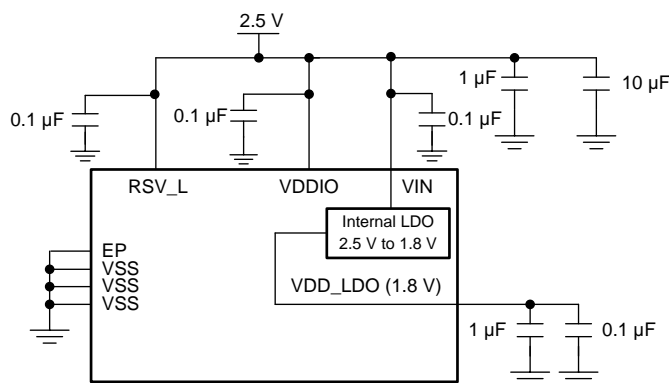

图 24. Single 2.5 V Supply Mode - Compatible with LMH1219
- **Single 2.5 V Supply Mode:** This mode offers ease of use and pin compatibility with the LMH1219 (11.88 Gbps Ultra-HD Adaptive Cable Equalizer with Integrated Reclocker). The internal circuitry receives power from the on-chip 1.8 V regulator. In this mode, 2.5 V is applied to VIN, VDDIO, and RSV\_L. This mode supports SPI or SMBus serial interface. See Figure 24 for more details.